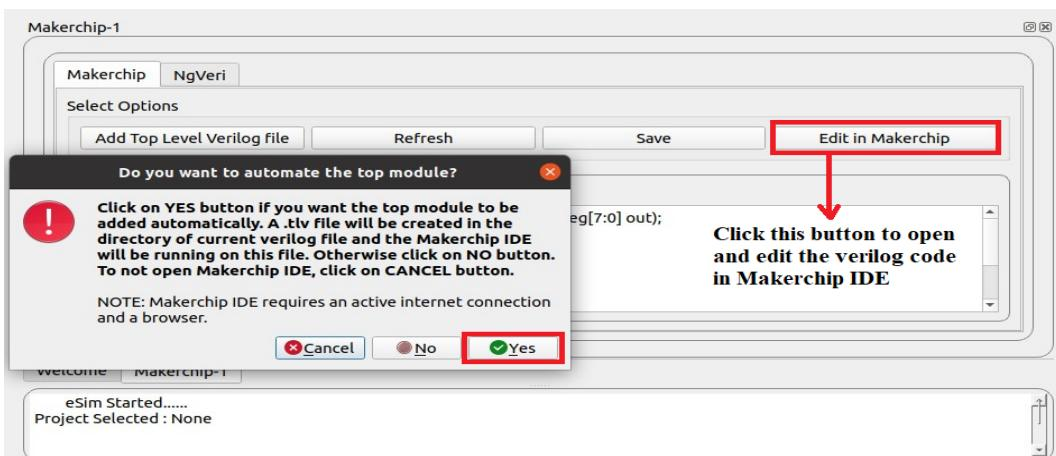
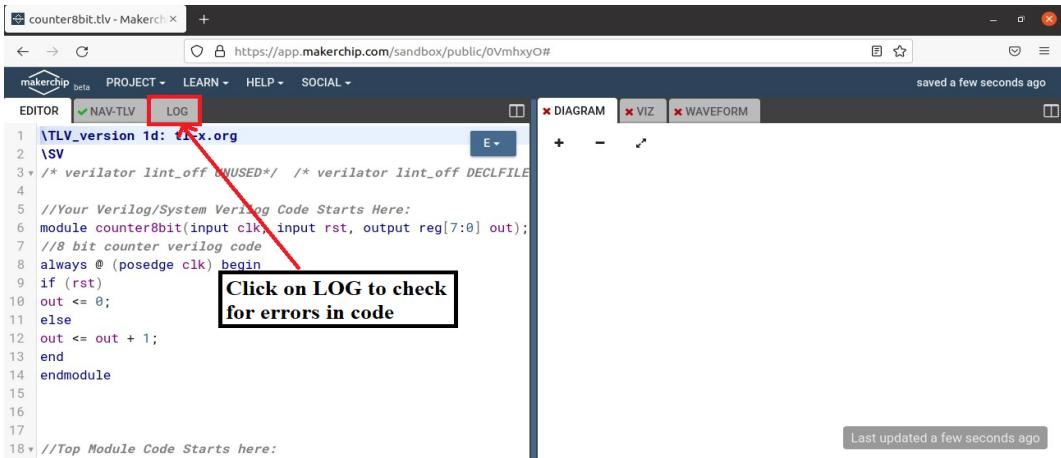
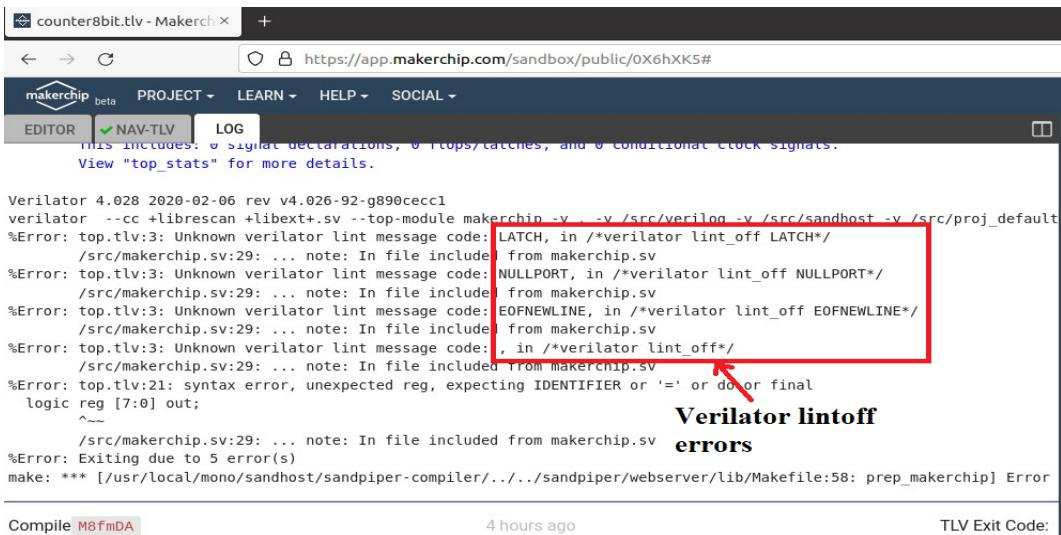

Figure 11.12: Opening Makerchip IDE
Figure 11.13: Makerchip IDE interface
Figure 11.14: Verilator lintoff errors
- Now click on **Edit in Makerchip** button to open and edit the verilog code in Makerchip IDE. A pop-up window will appear as shown in Fig. 11.12. By clicking on **Yes**, a top level verilog file i.e .tlv file will be created in the same directory of current verilog file and the Makerchip IDE will be run in a new web browser as shown in Fig. 11.13. By clicking on **No**, the current raw verilog file i.e .v file will open up in Makerchip IDE web browser.
11. User can check for errors by clicking on **LOG** tab in Makerchip IDE interface as shown in the Fig. 11.13. Following window will appear as shown in Fig. 11.14, where you can check the Verilator lint-off errors.
12. As shown in the Fig. 11.14, verilator lint-off commands which caused error in the Log section needs to be removed from Line 3 in the editor window. Two such commands which needs to be removed are shown in the Fig. 11.15.
- After compiling, **Unexpected reg error** remains in the Log section (Refer Fig. 11.17) which can be rectified by removing *reg* from top level verilog code as shown in Fig. 11.18. By clicking **Yes** button in Fig. 11.12, a Top Level Verilog (TLV) code automatically gets added in the editor. Refer Fig. 11.18. The value of *rst* value is by default as random value and it can be replaced if user wants to assign values. We have assigned *rst* with *reset* in this counter example.